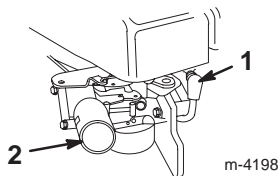

Figure 13
1. Connect the wire to the spark plug (Fig. 13).
2. Push in the primer 3 times, waiting one second between each push (Fig. 13).